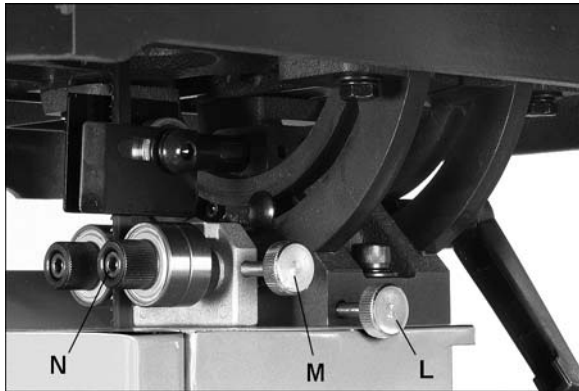

Figure 27
Refer to Figures 27 and 28.
*Movement summary:* Loosen lock knob (L) to move guide bracket. Loosen lock knob (M) to rotate side bearing, using knurled knob (N). Loosen lock ring (O, Figure 27) and rotate knob (P) to adjust thrust bearing in relation to blade.